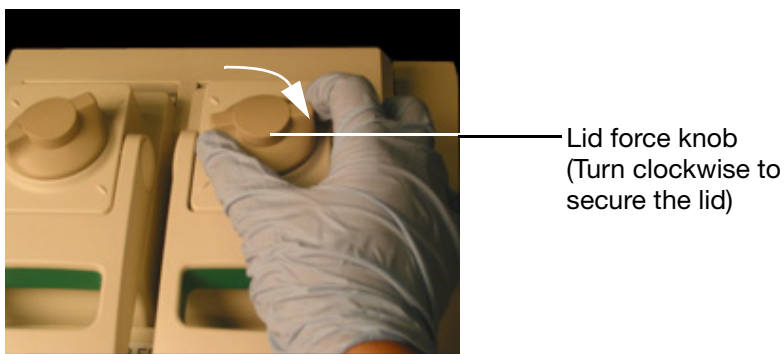

Figure 12. Adjust the lid force by turning the lid lever.
2. Adjust the lid force by turning the lid force knob (Figure 12).